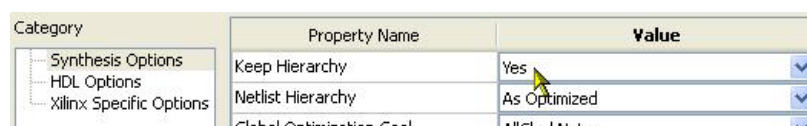

Figure 5-1: Keep Hierarchy
2. Set the Keep Hierarchy option to **Yes** as shown in Figure 5-1.